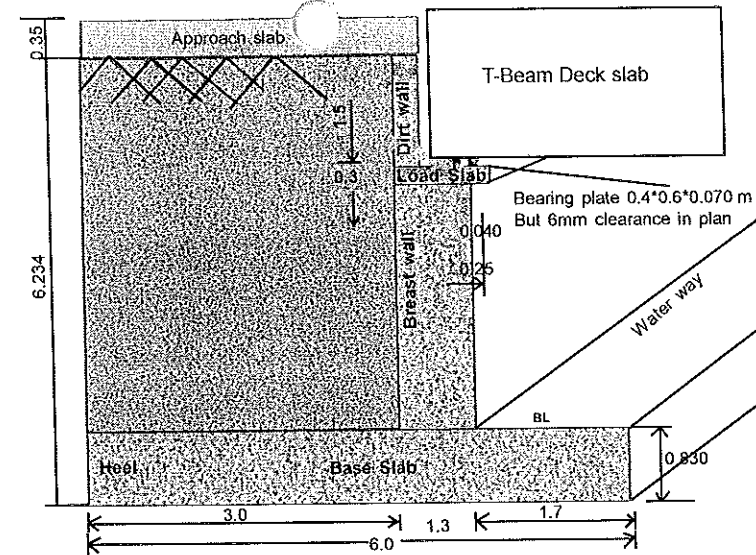

Fig. 1
- Preliminary Dimensions: Assumed as in Fig. 1.
- Superstructure: T-Beam (Two Lane) bridge of Effective span (L_{eff}) = 20m Overall Length (L) =22m
- Check the adequacy & stability of the assumed section on the bases of stresses developed. The reinforcement details are not required to be computed. (20)